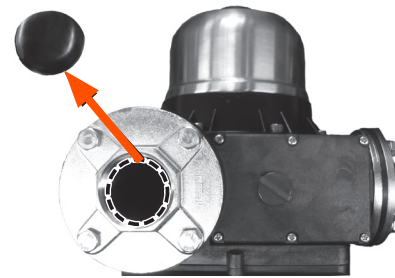

Fig. 2
6. Please cut out the center of the rubber gasket inside the inlet and outlet flanges as it will block the water flow.(See Fig 2)